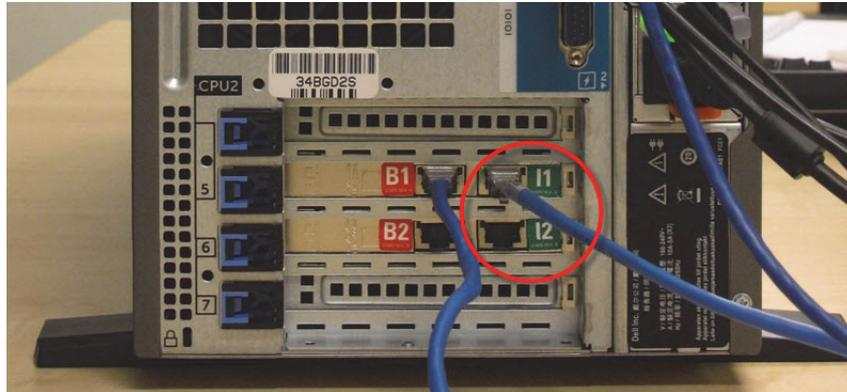

Figure 152: Controller Instrument Ports
3. Disconnect the Instrument network cable from the port labeled **I1** or **I2** on the primary controller, and then reconnect the cable to the same port on the secondary controller. See Figure 152.